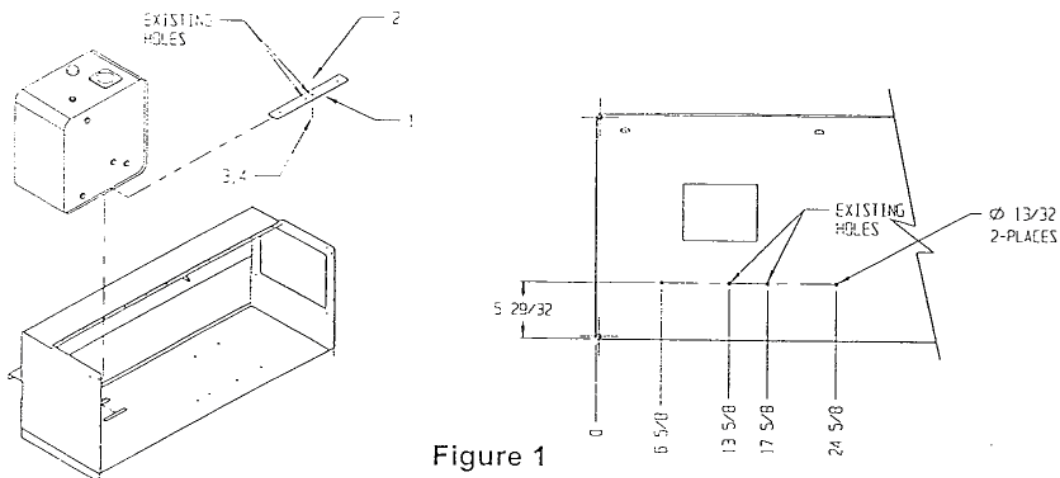

Figure 1
Kit Includes: (Refer to Figure 1)
1. Read all instructions and refer to Figure 1 before starting.